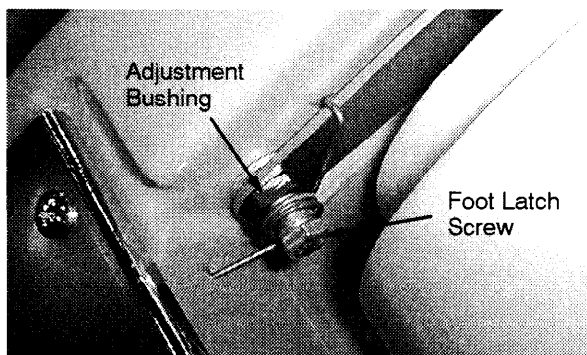

FIG. 16
2. Loosen foot latch screw, 10mm wrench required (Figure 16).